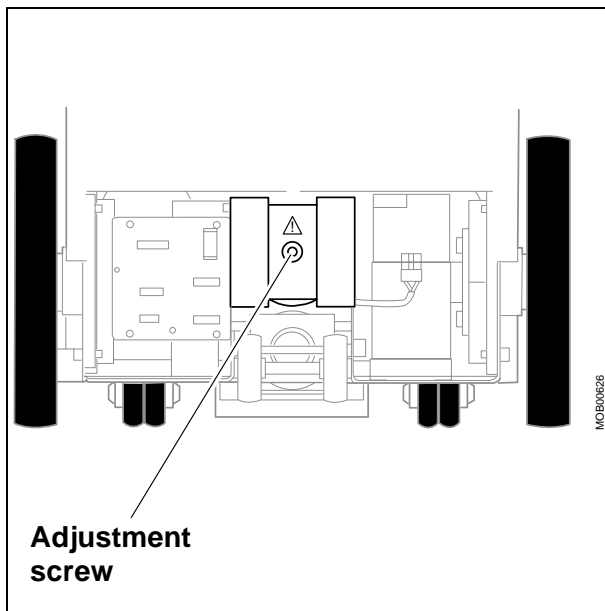

Fig. 27
- Remount the screw and the the disc springs (fig. 27). Secure the screw with the locking nut.
- Loosen the adjustment screw so that the arm is no longer balanced, however the spring mechanism remains in position (Fig. 27). Do not allow the spring mechanism to fall out.